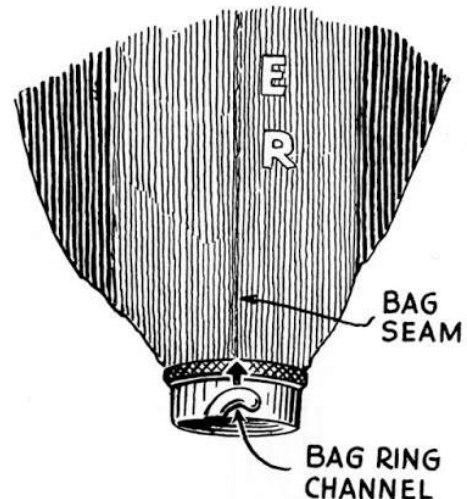

Fig. 1
- c. To detach bag ring turn bag inside out and remove cord string. When replacing ring in bag make sure channel in ring is in line with seam so that when bag is turned correct side out **Hoover** will appear on top. See Fig. 1.